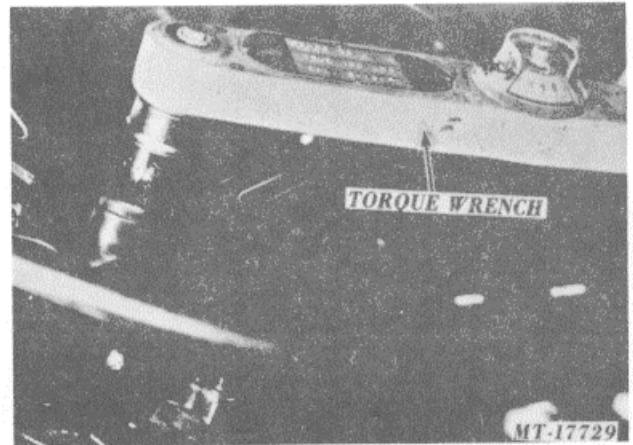

Fig. 5 Torque Steering Wheel Nut
5. Install steering wheel nut on steering drive shaft and torque, dry (Fig. 5).
6. Install horn button base plate with (3) tapping screws. Install "grounding" screws.